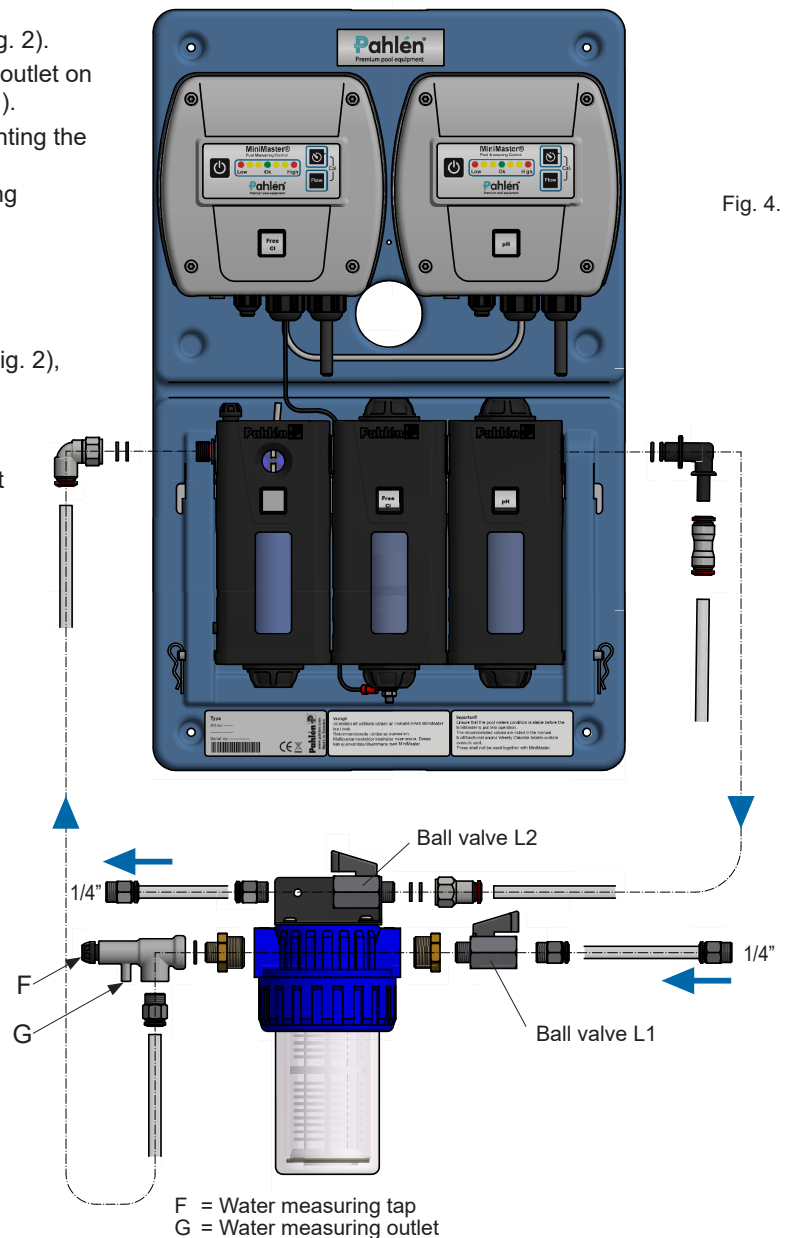

Fig. 4.
5. Install the supplied connections for Mini Master modules inlet and outlet, see Fig. 4.
3. Calibrate pH unit by simultaneously pressing (J) and (K) buttons and hold them down for at least 2 seconds. To confirm that calibration is in progress, LED blinks fast (appr. 5 times/sec) and in the end LED blinks slowly.
7. Activate automatic mode by pressing (H) button. LED current measured value (pH) is now steady, and Mini Master, if necessary, will control pH dosage:
9. Take measured water from the drain tap (F, Fig. 4) and check pH with photometric measurement instruments.
1. Take measured water from the drain tap (F, Fig. 4). Check the pool's pH by using photometric measurement instruments.
4. Calibrate pH unit by simultaneously pressing (I) and (J) buttons and holding them down for at least 2 seconds. To confirm that calibration is in progress, LED blinks fast (appr. 5 times/sec) and in the end LED blinks slowly.
6. Activate automatic mode by pressing (H) button. LED for current measured value (pH) is now steady and Mini Master controls the signal to the connected dosing equipment to regulate pH in the pool.